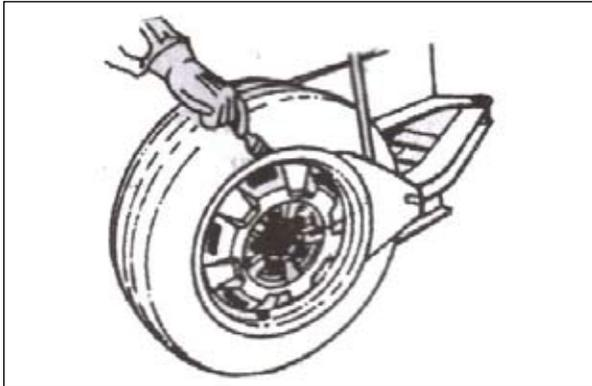

FIG 18
4.1.2 (FIG 18). Pull the bead loosener shoe away from the machine and roll wheel into position. The valve stem should be in the 3 o'clock position. Position the bead loosener shoe against the tire next to, but not on, the rim. Depress the bead loosener foot pedal to actuate the shoe and loosen the bead. It may be necessary to loosen the bead in multiple locations around the tire.
Apply tire manufacturer's approved rubber lubricant liberally to entire circumference of both tire beads after loosening. (Fig 18)